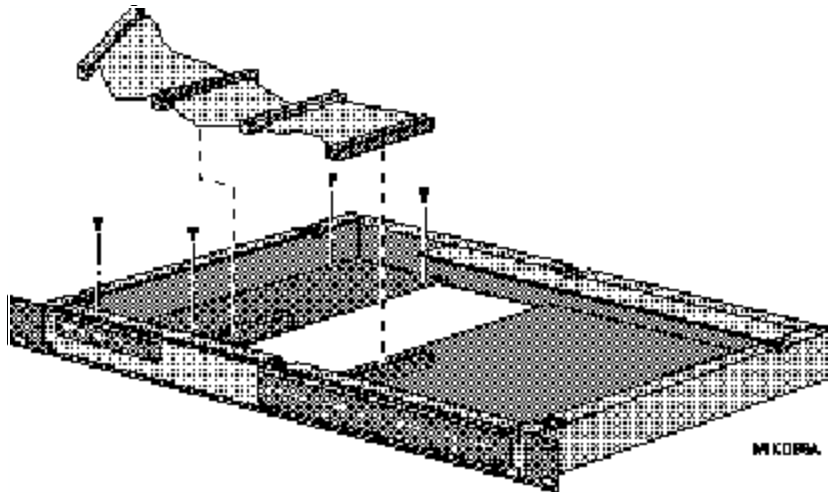

Figure 4. Installation of M3 Card
8. Insert four phillips screws through the M3 Card, into the chassis, and tighten. (See Figure 4.)